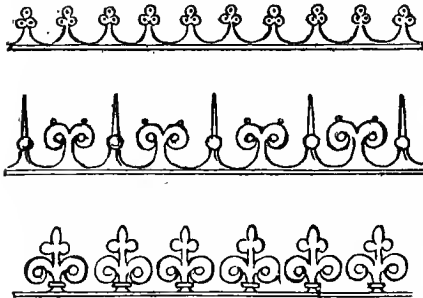

FIG. 89.
*Ridge-cresting*, which consists of ornamental iron—or wood—work fixed along the ridge, as shown in Fig. 89. The light cast-iron ridging is made in